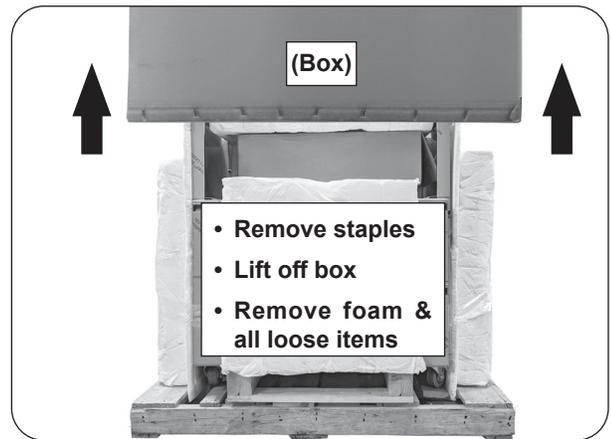

Fig. 9-1 Unpack cart base
1. Remove the bottom staples from the perimeter of the pallet and (with two people) lift the top box upward and off. See Fig. 9-1.